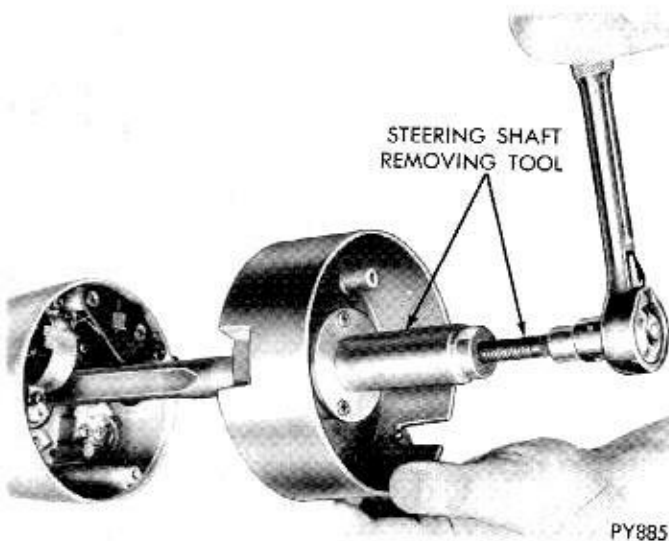
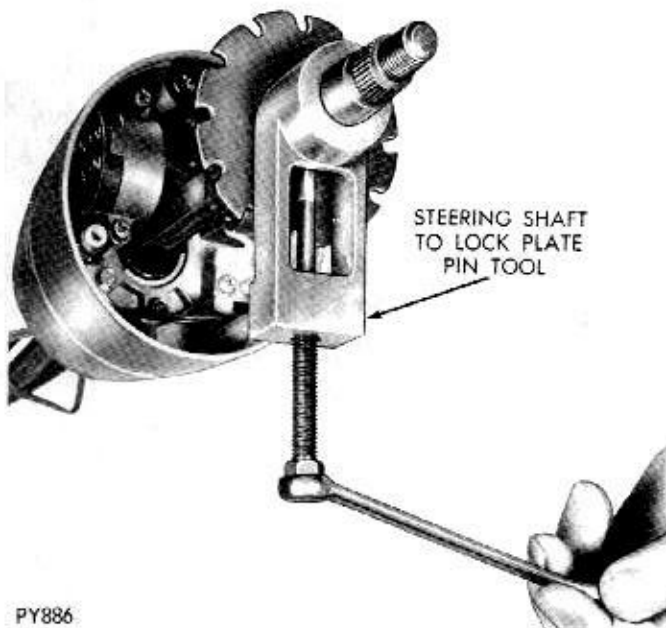

Fig. 6—Pressing Shaft Out of Bearing
Fig. 7—Lock Plate Pin—Removal or Installation
(2) Install steering shaft remover C-4044 and press shaft out of bearing and remove bearing housing from shaft (Fig. 6).
(3) Remove bearing lower snap ring from shaft.
(4) Pry sleeve off steering shaft lock plate hub to expose pin.
(5) Install Tool C-4113 on steering shaft lock plate hub to press pin out of shaft. **DO NOT HAMMER** (Fig. 7).
(6) Remove tool and lock plate from shaft.
(7) Remove shaft through lower end of column.
(1) Insert the steering shaft assembly into the column and shift tube assembly.
(2) Install the lock plate on the steering shaft and press the pin into place. **DO NOT HAMMER** use tool C-4113 (Fig. 7). Make sure pin is centered.
(3) Install steering column shaft lock plate sleeve over shaft lock plate pin and against lock plate.
(4) Install the bearing lower snap ring on the steering shaft.